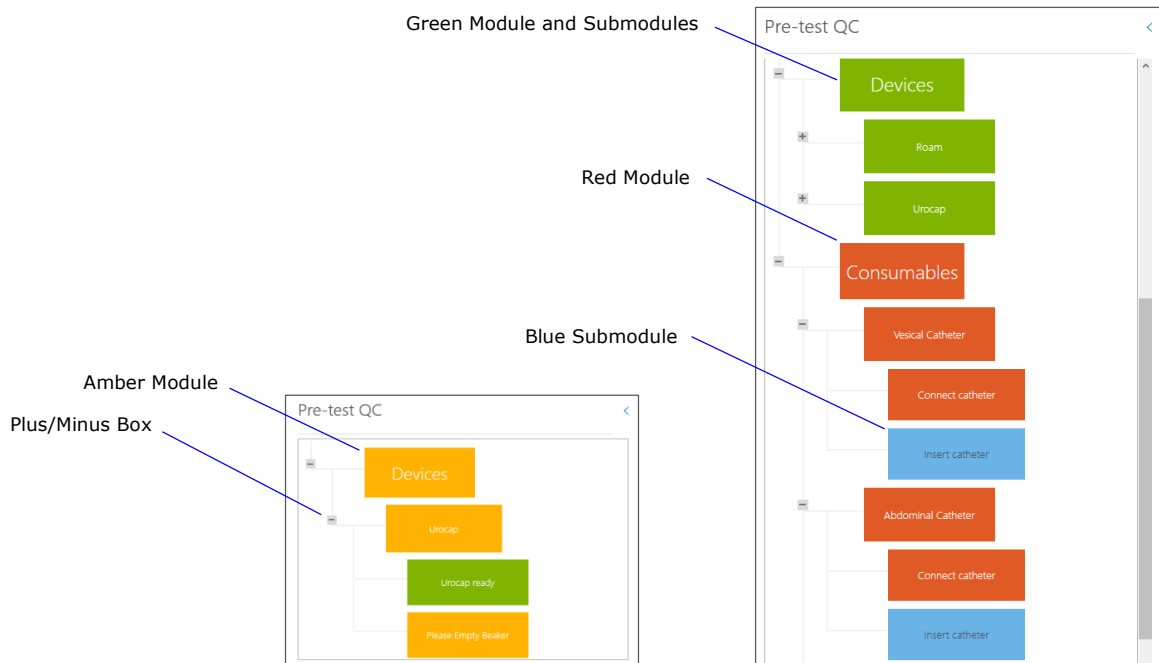

Figure 60: Pre-test QC
2. The color of the module indicates its status. If a submodule requires attention the main module will reflect this in its assigned status (Figure 60).
See Figure 60 below for examples of the color coding of the modules in the preview phase.